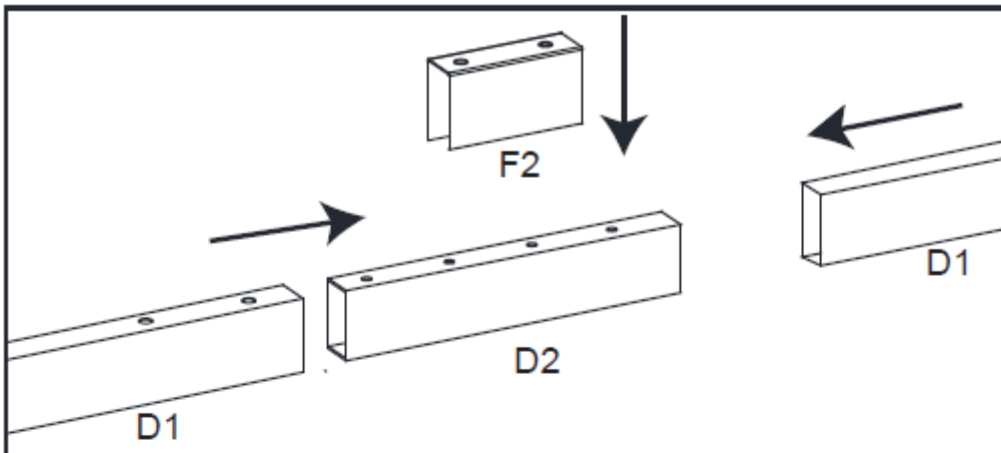
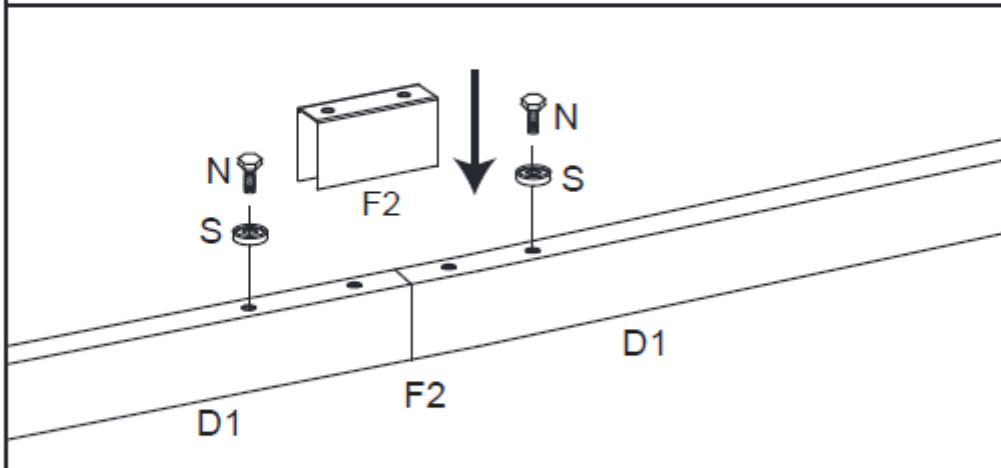

Figure 6-1A
Figure 6-1B
Step 6A: Attach the two Inside Lintels (D1) to the Inside Lintel Connector (D2) using Bolts (N) and Plastic Washer (S) for the end holes only. Tighten Bolts. See Figure 6-1A and Figure 6-1B.
Step 6B: Attach the Ferrule (F2) to the Inside Lintel (D1) using the Bolts (N) and Plastic Washer (S).